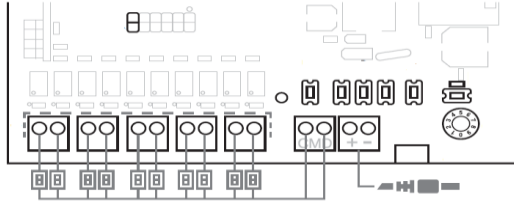
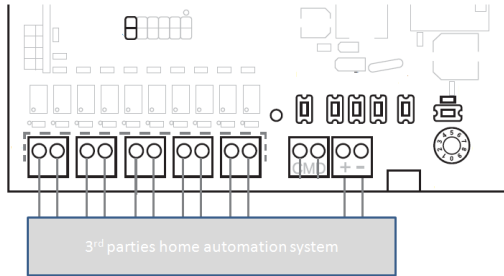

Fig.2 Switches direct connect to DCT2RTS interface wiring
Fig.3 Home automation system directs connect to DCT2RTS interface wiring
- 1.1.3 Wire either switches (fig.2) or dry-contact relay outputs (fig.3) to the indicated DCT terminals at the bottom of the DCT2RTS Interface.